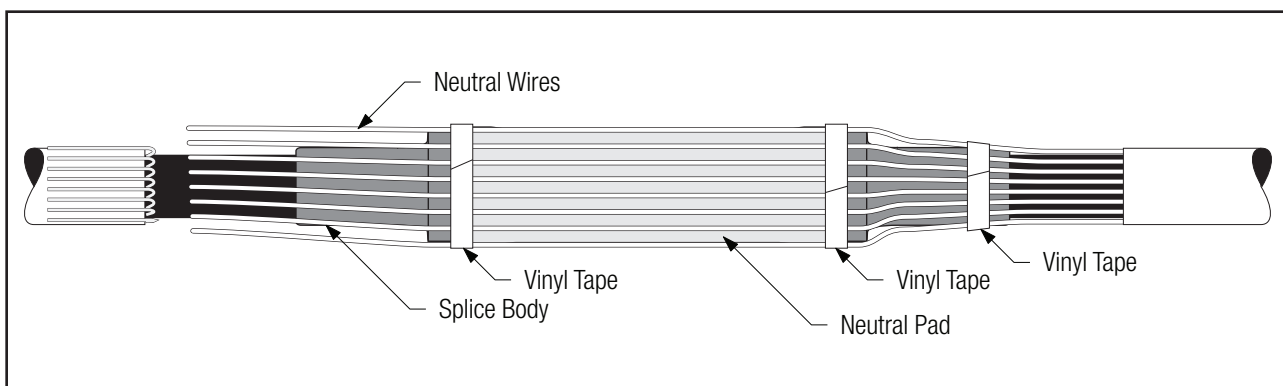

Figure 19
- 5.2.1 Center neutral pad on splice body. Route neutrals either straight or concentrically around splice body and secure using vinyl tape (Figure 19).